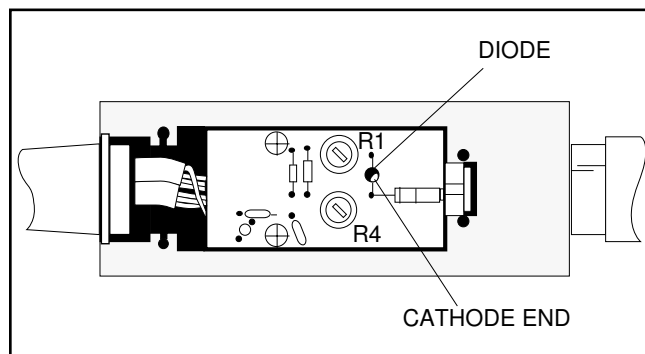

Figure 6. Model 5400-71B50 and 5400-71B75 RF Detectors Housing Layout Diagram
- a. Required Adjustments** Whenever the detector diode (or diode module) of the RF detector is replaced, the two potentiometers that are part of the RF detector PCB subassembly (Figures 6 (below) and 9 (page 6)) must be readjusted. The potentiometer readjustment is done after the de-
2. Unplug the defective diode (Figure 6) from the PCB subassembly and remove.
11. Orient the cathode end (white dot) of the replacement diode as shown in Figure 6 (white dot towards centerline of the detector PCB subassembly). Insert the diode into the socket of the PCB subassembly.